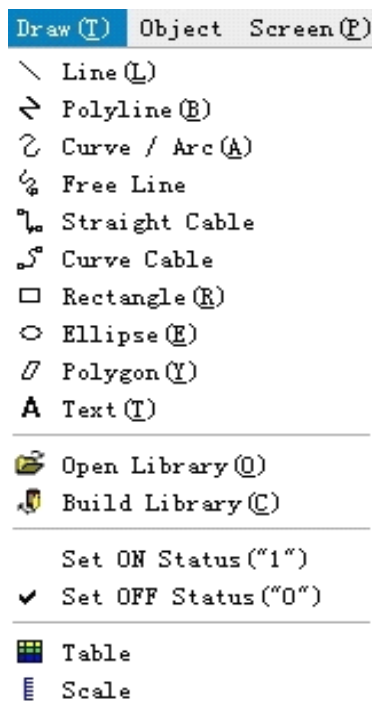

Figure 2-27: Draw menu
“Edit” menu consists of commands used to edit screen, text and drawing as well as some auxiliary commands, including Undo (U), Redo (R), Cut (T), Copy (C), Duplicate (D), Paste (P), Delete (D), Select All (A), Align, Layer, Rotary, Assemble, Mirror, Zoom, Pan View, Grid, Grid Width, Border Scale, The Forward Screen, The Backward Screen, Open Screen Property, Information Output Window, Project Manager, Find Address, and Address Table. Grey commands are invalid under the current environment, and can be used only when the object to be edited is chosen. Some commands in Edit menu are group commands, which are marked with a small triangle on the right side of the line. In addition, each command has a shortcut key. This menu is a drop-down menu, as shown in Figure 2-27.
This menu is mainly used to draw pictures. IFCDRAW provides Line (L), Polyline (B), Curve/Arc (A), Free line, Straight Connection Line, Curve Connection Line, Rectangle (R), Ellipse (E), Polygon (Y), Text (T), Open Library (O), Build Library (C), Set ON Status, Set OFF Status, Table and Scale. This menu can be also used to open and close tool box. A “√” on the left of the command indicates the tool box has been displayed in the screen. Using picture elements built with the Tool menu, designers can conveniently change the color, text, size and position of these elements. See Figure 2-27.